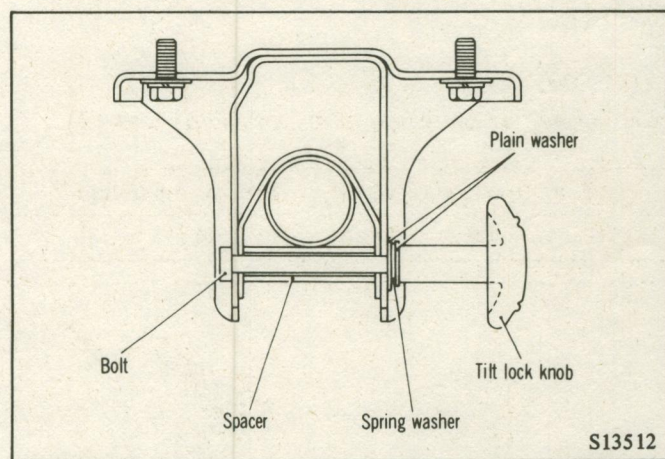

Fig. 13 Installing the Tilt Bracket
(4) Fit snap ring into the groove on steering shaft.
(5) Install the tilt bracket on the column tube, insert the spacers between column tube and tilt bracket. Insert the bolt, and tighten the tilt lock knob with plain washer, spring washer and plain washer installed in that order. (Fig. 13)